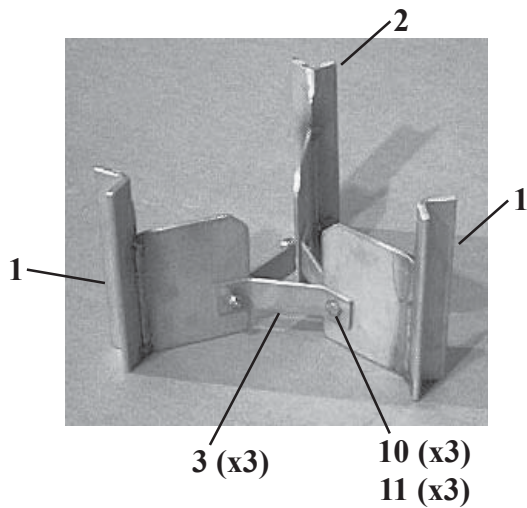

Figure 6
A. Flow Straightener Assembly - See Figure 6
1. Assemble the Flow Straightener Assembly on a flat surface as seen in Figure 6. Tighten the hardware.